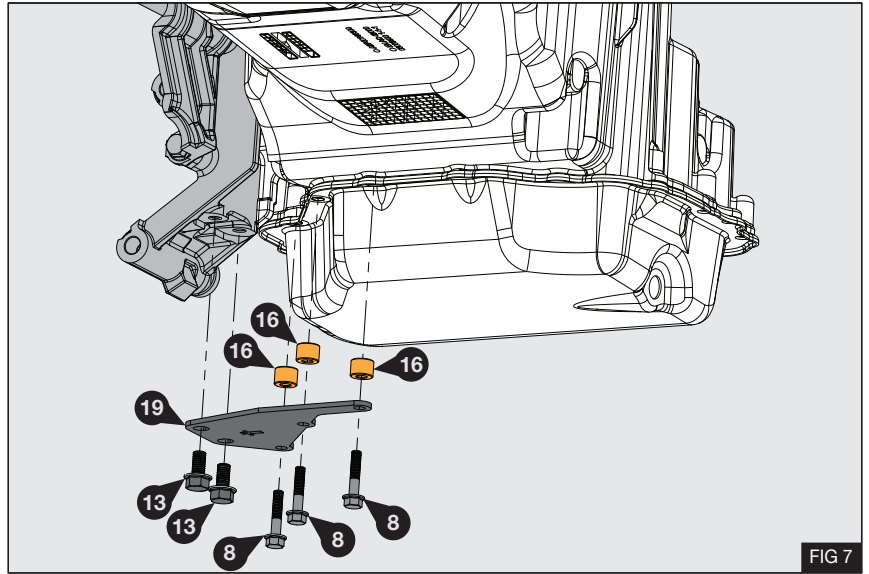

FIG 7
- Torque bolts (8) to 7.5 lb-ft / 10 Nm
- Torque bolts (5) and (7) to 18 lb-ft / 25 Nm
7. Fit the lower support plate (19) with spacers (16), 3x M6 x 30 bolts (8) and 2x M8 x 16 bolts (13) - Fig 7
- Torque bolts (13) to 18 lb-ft / 25 Nm